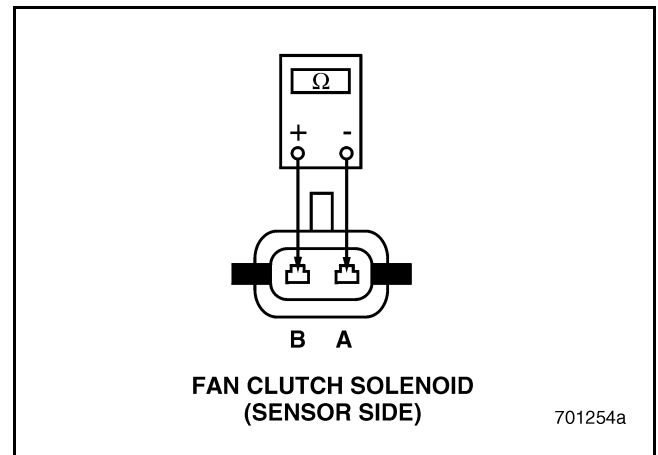

Figure 456
3. Check for continuity between the terminals of the Fan Clutch Solenoid (see Figure 456).